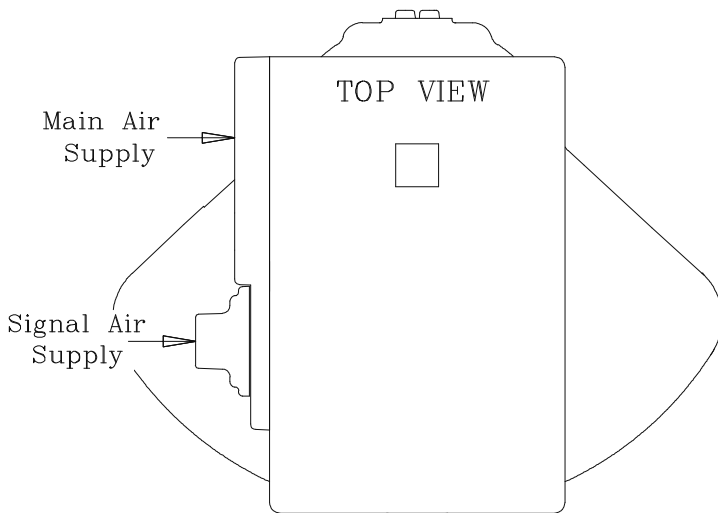

Figure 1. Mid Travel Orientation of Actuator Square and Positioner Box
2.1.1 Move actuator vane to mid travel position, with its output square as shown in Figure 1. This is advisable to prevent subsequent error in orientating positioner coupling. (This is not necessary with spring return actuators as there can be no confusion with square orientation).
2.1.3 Bolt the positioner body to the actuator in the orientation shown in Figure 1 taking care that the two O'rings are in place to seal the ports to the actuator (place a small amount of grease onto the O'rings to keep them in place) and that the actuator shaft is centred in the body.
6.1.1 Move actuator vane to mid travel position, with its output square as shown in Figure 1. This is advisable to prevent subsequent error in orientating positioner coupling. (This is not necessary with spring return actuators as there can be no confusion with square orientation).
6.1.3 Bolt the positioner body to the actuator in the orientation shown in Figure 1 taking care that the two O'rings are in place to seal the ports to the actuator (place a small amount of grease on to the O'rings to keep them in place) and that the actuator shaft is centred in the hole in the body.